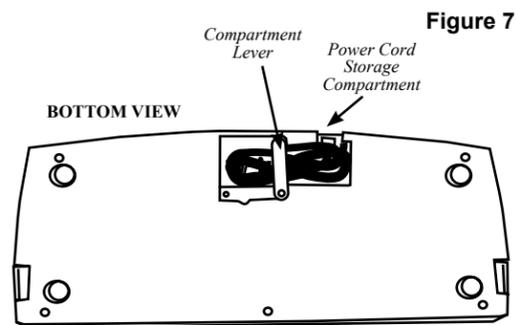

Figure 7
2. Pivot the Compartment Lever over to open the Power Cord Storage Compartment (Figure 7).